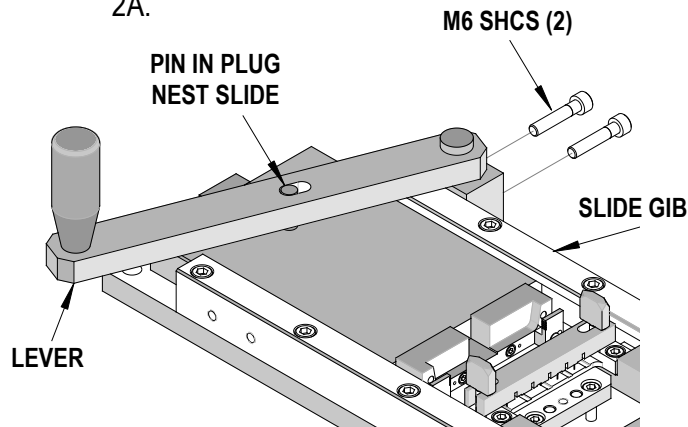

Figure 2-2B
4. Tighten the two M6 screws. See Figure 2.2B.